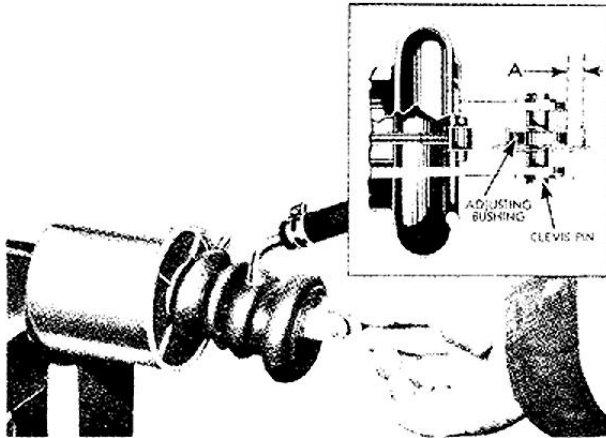

Fig. 3—Valve Links Away From the Cylinder
4. With the engine running to provide vacuum, move the valve link away from the cylinder, until all clearance between adjusting bushing, and valve links is on the forward side, (See "A" of inset of Fig. 3.) In this position, the piston rod should move forward slowly.